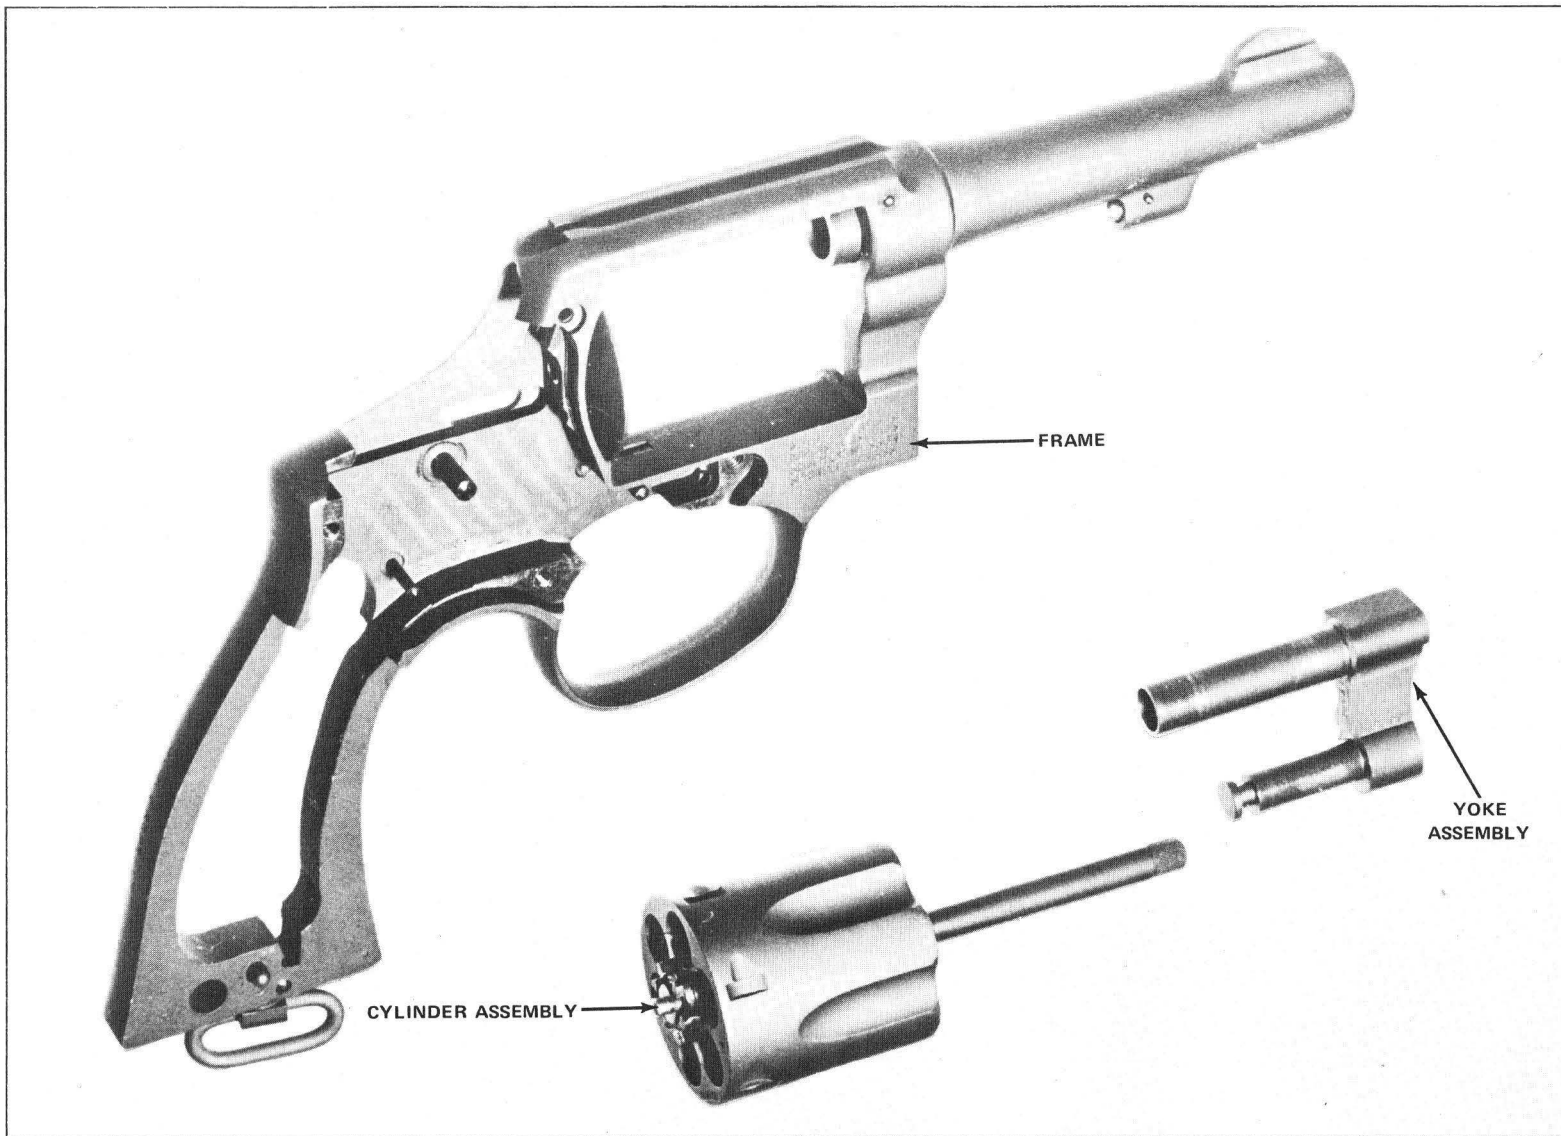

Figure 3-1. Rightside View of Frame and Cylinder Yoke Assemblies
(1) Complete disassembly of the weapon is not always necessary in order to perform required repair or component replacement. To maintain disassembly and assembly operations at a minimum, good judgment should be exercised.
(2) When disassembling a unit, remove the major assemblies. Figure 3-1 shows the major assemblies of this weapon. These consist of the cylinder assembly, yoke assembly, and frame. The cylinder and frame assemblies may be disassembled further for inspection and/or replacement of individual parts. The component parts of these weapons are specifically fitted to each individual weapon and should not be mixed with similar parts from other weapons.
(3) Before beginning assembly of the component parts and major assemblies, all parts should be lightly lubricated with prescribed lubricating oil. During assembly, the reverse order of disassembly is followed.